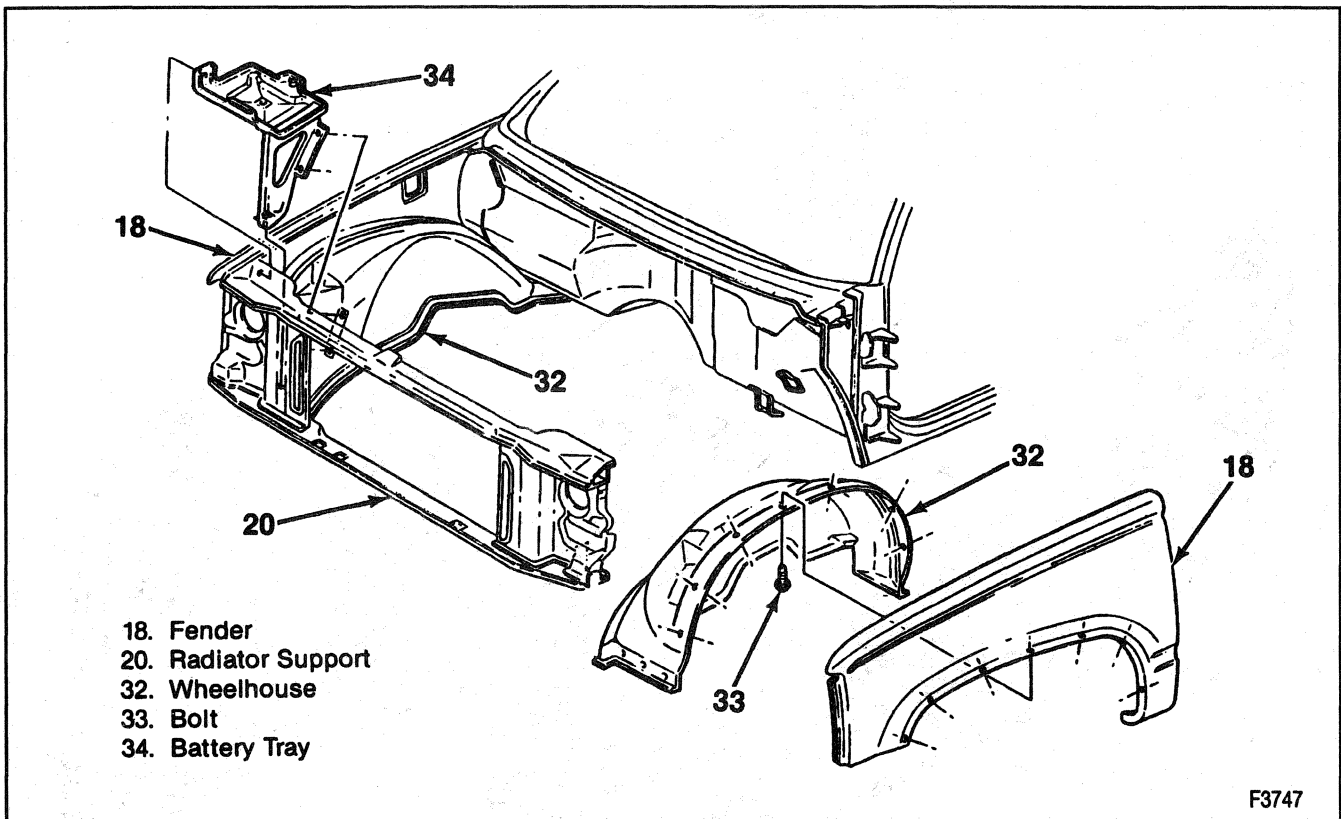

Figure 9—Fender and Wheelhouse Assemblies
Remove or Disconnect (Figures 9 through 11)
13. Bolts holding the fender to the wheelhouse (Figure 9).
→→ Install or Connect (Figures 9 through 11)
2. Bolt from inside the engine compartment (Figure 9).
7. Bolts through the wheelhouse to the fender (Figure 9).
11. Bolts holding the fender to the wheelhouse (Figure 9).
- 7. Bolts through the wheelhouse to the fender (Figure 9).